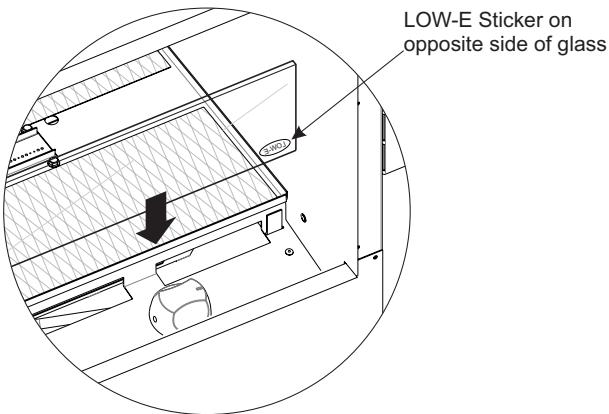

Figure 21
- Install the glass wind panel (two used on see-through fireplaces). The glass panel has a low emission (low-E) coating applied to one side. The panel must be installed with the low-E coating facing the burner. The panel will have a sticker located in the bottom corner of the side which has the low-E coating. Install the glass panel with the sticker facing the burner and the bottom of the panel. **See Figure 21.**